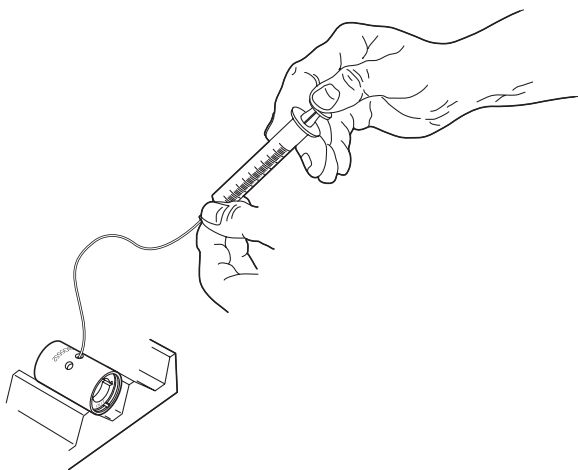

Figure 3. Connect Tubing and Syringe to the Centerpiece
2. Connect the tubing hub end to the 10-mL syringe, and the other tubing end to a filling hole in the centerpiece assembly (see Figure 3). For each sector, either filling hole can be used.